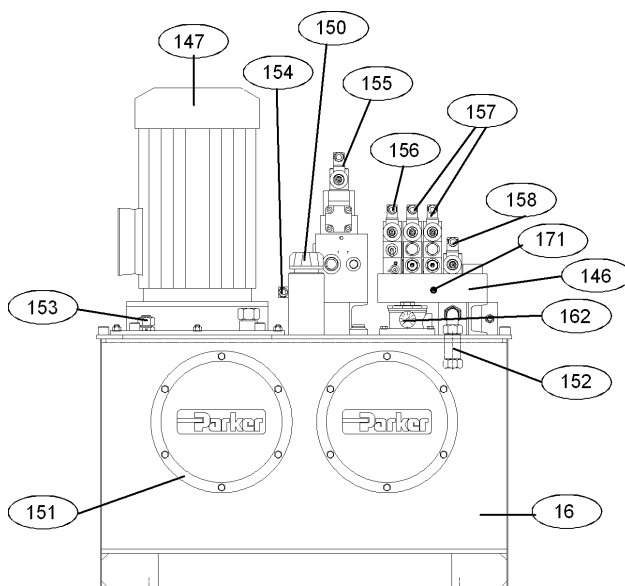

Fig. 74 Hydraulic Aggregate (Front View)
The most important building types are shown in figures 74 and 75.
### Explanations for figures 74 and 75
- Check the oil level of the aggregate (148, Fig. 74) in regular intervals. Please note that the "maximum" oil level may only be set when the lock cylinder has been positioned. Ignoring these instructions can lead to an overflow of the container when positioning the lock cylinder.
- The cover plate cylinders (22.65, Fig. 22) are controlled via two directional control valves (157, Fig. 74) with an integrated choke/air regulator. The optimum speed for opening and closing the cover plates is set at the manufacturer. Faster opening or closing can - for opening or closing independently - easily adjusted if desired.
- Open the drain valve (149, Fig. 74) at the bottom of the oil tank. Remove closing plug.
- Close the drain valve (149, Fig. 74) and replace closing plug.
- Unscrew the cap of the fill and ventilation filter (150, Fig. 74).
- While filling, observe the oil level indicator (148) on the tank.
For the first start-up, the pump should be filled through a connection to the pump (153, Fig. 74, 75). Only build up pressure when ventilation is completed.